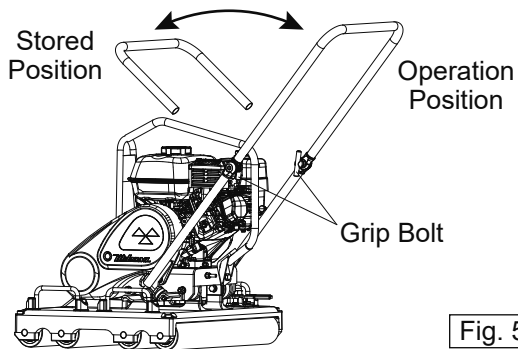

Fig. 5
- Check the folding handle to fix at stored, operation, or desired position. When fixing the handle position, tighten the grip bolts certainly. (Fig. 5)